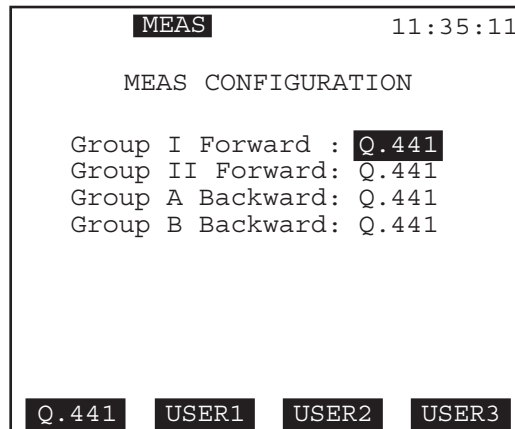

Figure 73 Signal Meanings Screen
- Select USER and you will enter a setup screen, where you can make selections via the F-keys, as in Figure 73.